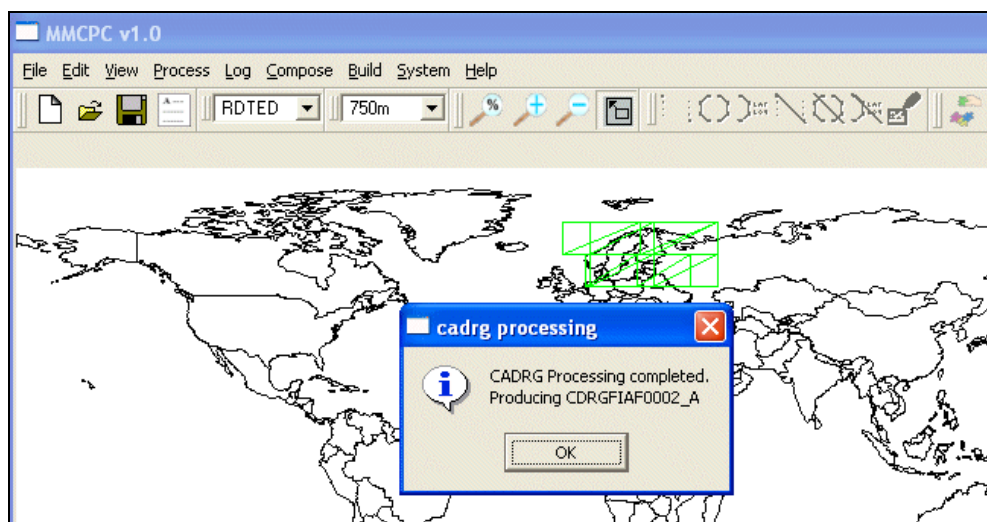

Fig. 47 — CADRG data processing completion notification
8. When a message is displayed that states the CADRG processing has completed, click OK (Fig. 47). MMCPD automatically assigns an identification number for this data set and displays this identifier in the completion message. Make note of this identification number since all references to this processed map data throughout MMCPD will be made by its identification number.